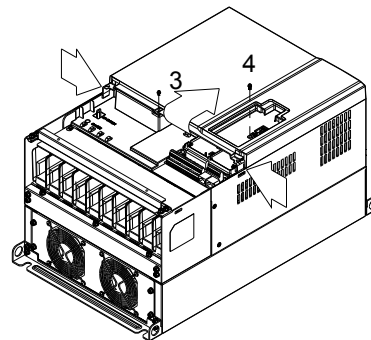

Figure 2
2. (Figure 2) Loosen screw 3, press the tab on the right and the left to remove the cover. Screw 3, 4 『Torque: 6~8 kg-cm / [5.2~6.9 lb-in.] / [0.6~0.8 Nm]』